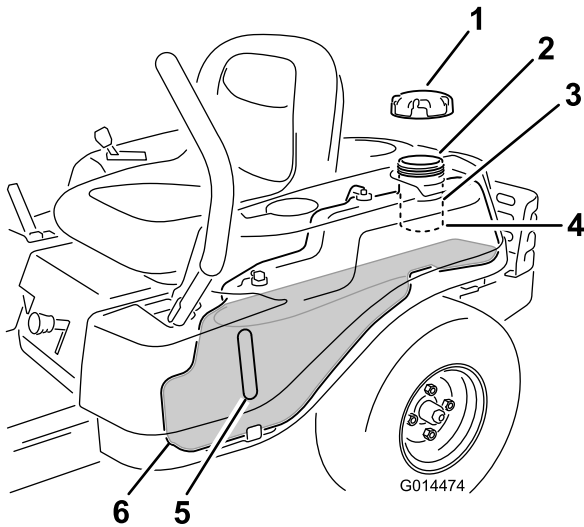

Figure 9
**Note:** You can use the fuel window to verify the presence of gasoline before filling the tank (Figure 9).
2. Slowly add regular, unleaded gasoline until the fuel reaches the base of the filler neck (Figure 9).